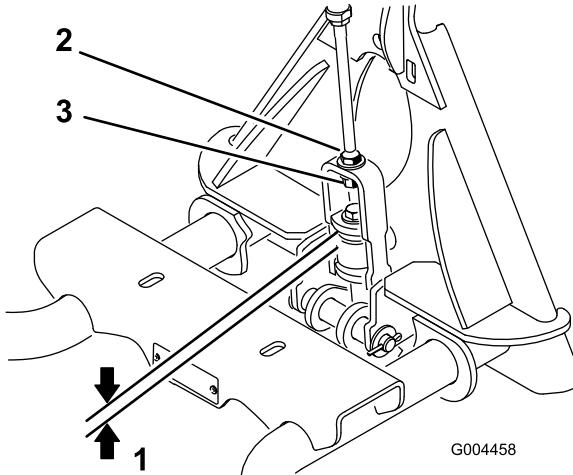

Figure 7
2. Measure the gap between the top washer and the spacer in the link assembly on the attachment adapter as shown in Figure 7.
**Note:** The gap between the washer and the shoulder should be 0.060 to 0.080 inch (Figure 7).
3. If the gap is not correct, loosen the jam nut and tighten or loosen the adjustment nut on the link assembly as needed to change the gap (Figure 7).